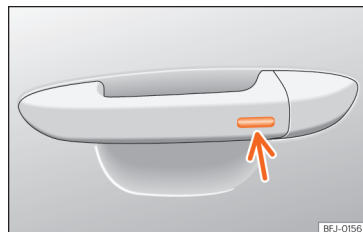

Fig. 92 Door handle: sensor surface.
• Press and hold the locking sensor surface **»» Fig. 92** (arrow) on the door handle to close the sunroof. If you release the sensor surface, the closing movement stops.